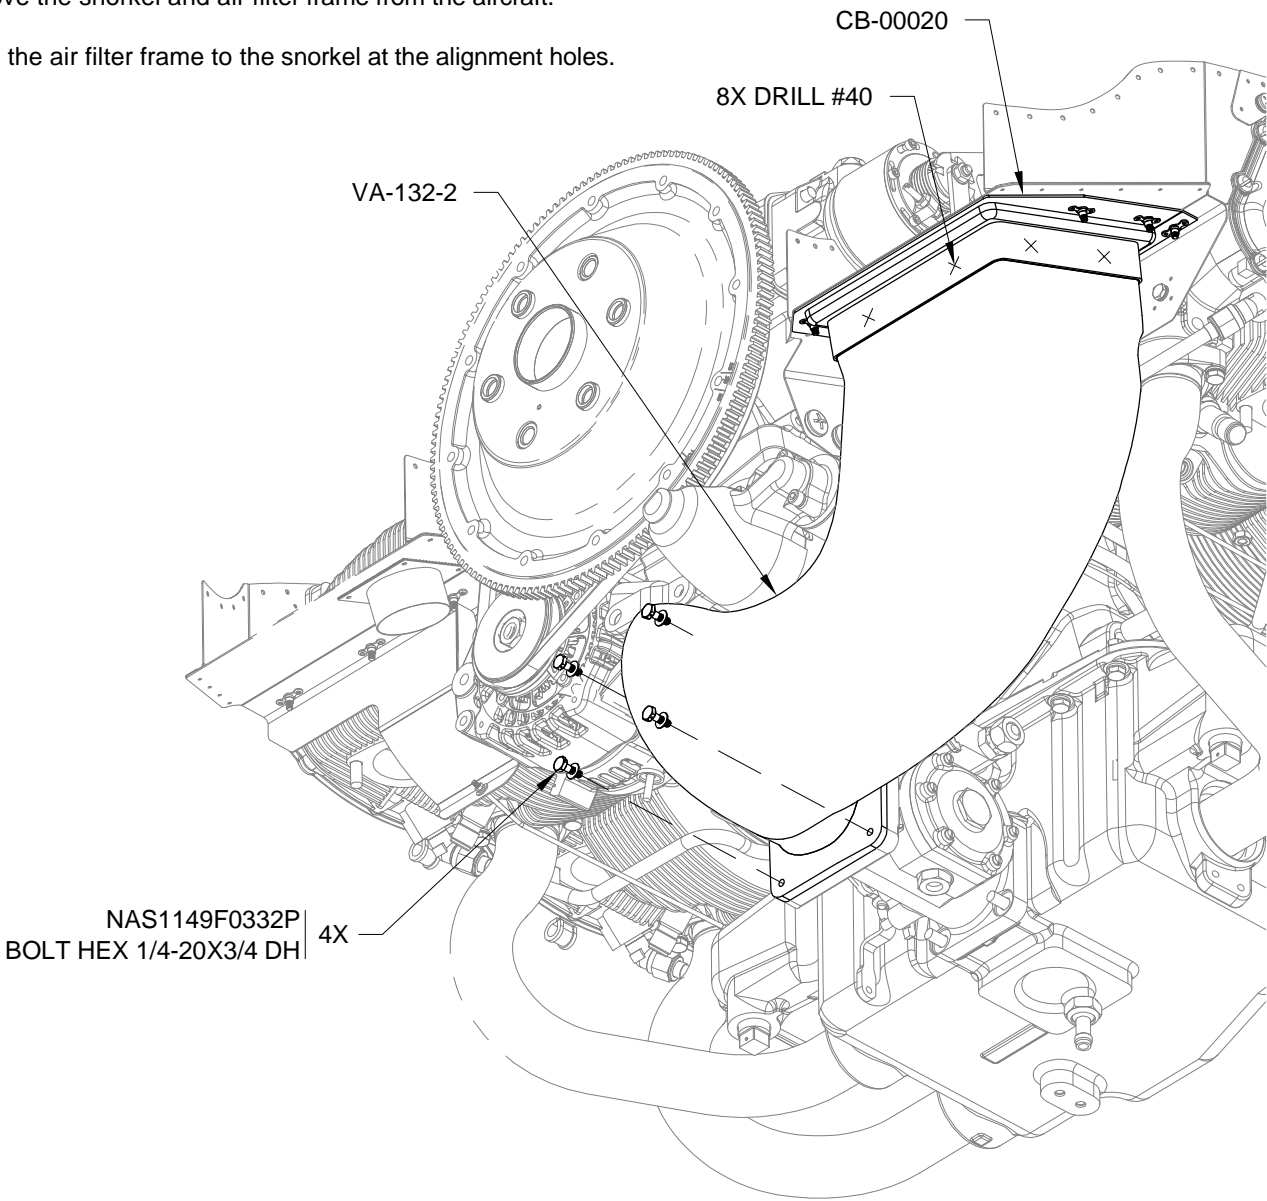

FIGURE 1: BOLT & DRILL SNORKEL
Step 6: Use an angle drill to drill #40 two alignment holes in each of the four sides of the air filter frame and snorkel. See Figure 1.